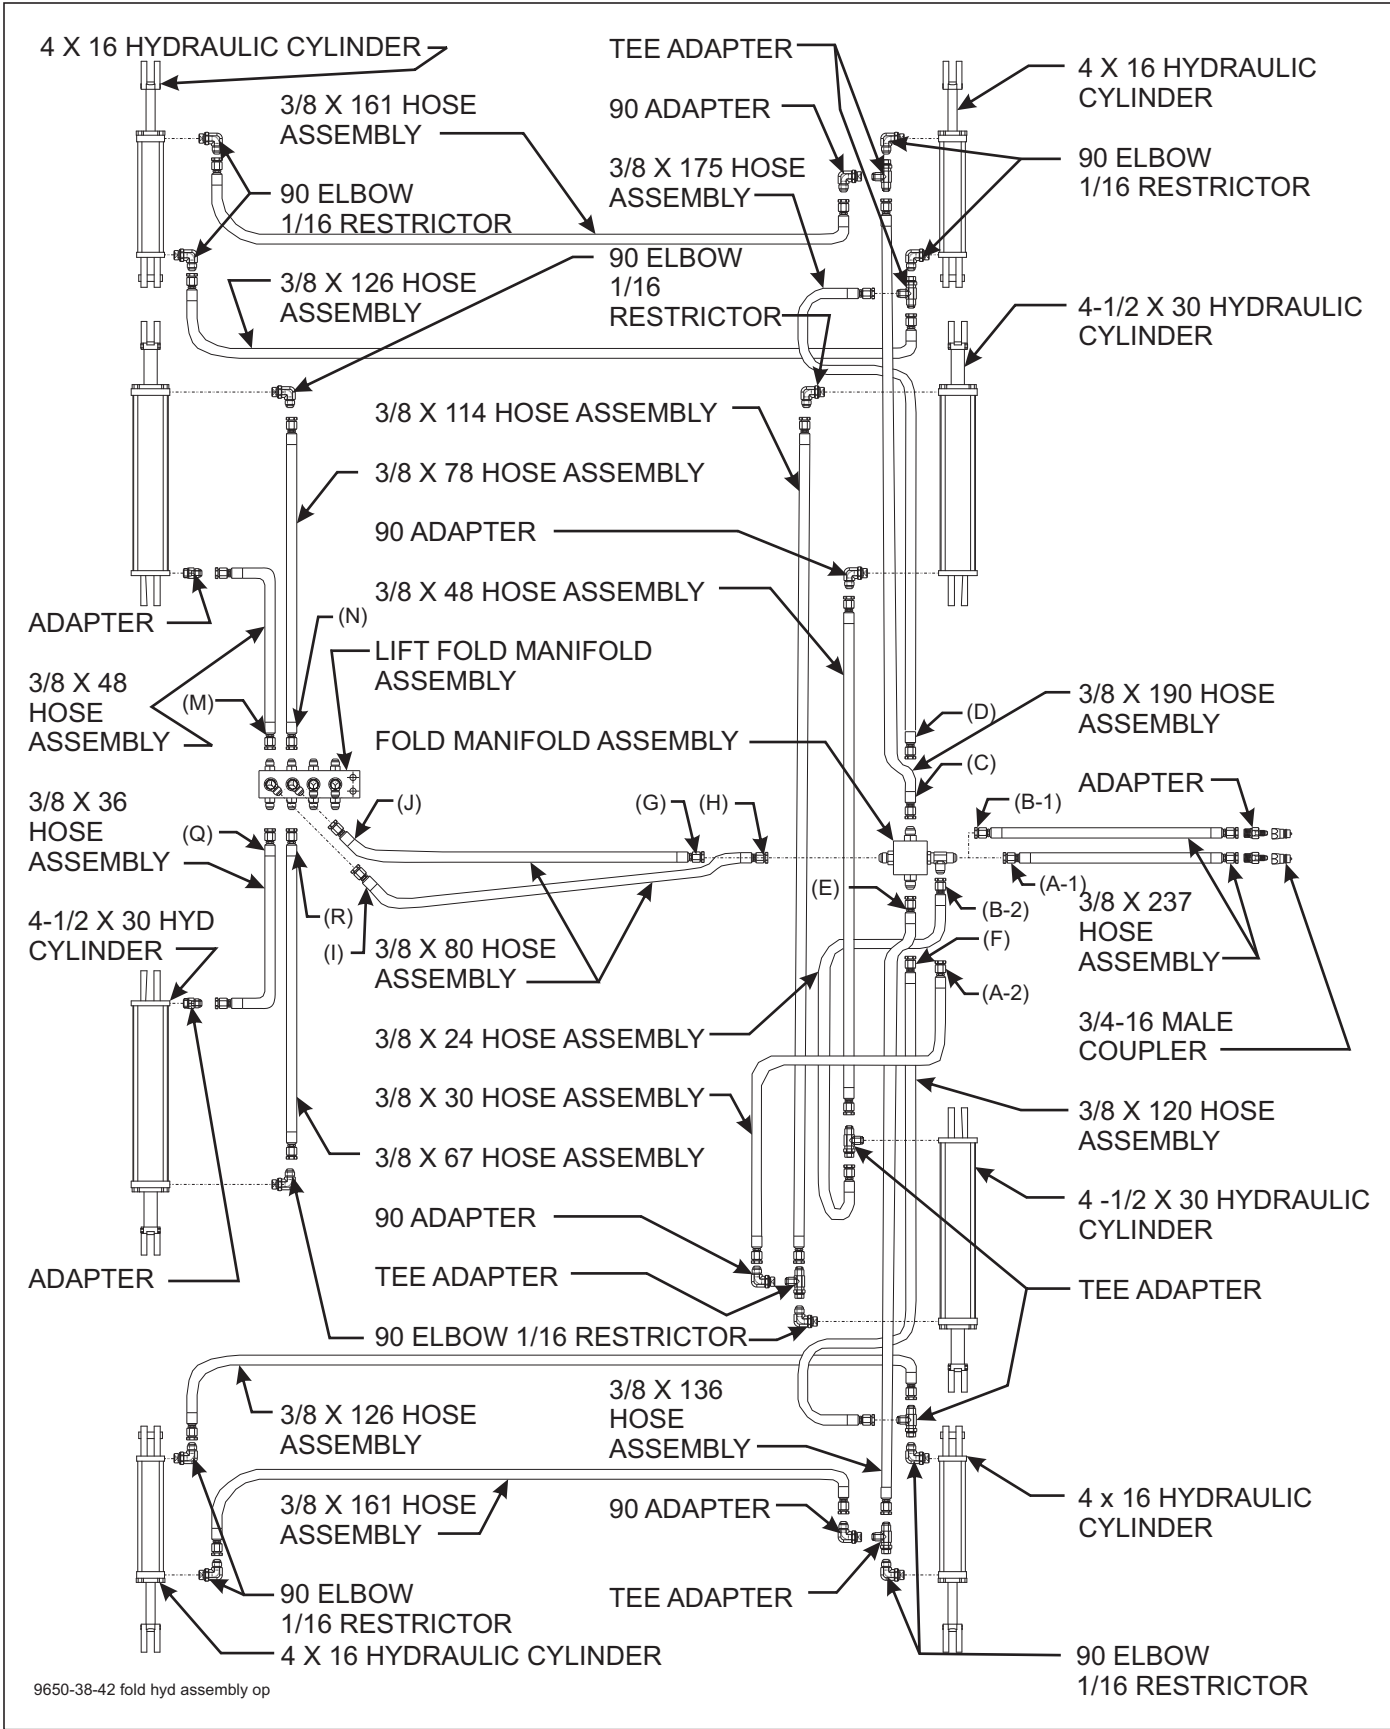

Figure 3-12: Hydraulic Fold Installation (9650-38 & 9650-42)
Restrictors are installed in the rod end of wing fold cylinders to prevent uncontrolled dropping of wings. Removal of these restrictors, or improper installation can result in serious damage to the implement. See Figures 3-12 and 3-14 for proper restrictor fitting identification and location.
14. Install fold system hoses per **Figure 3-12 (9650-38 and 9650-42) or Figure 3-14 (9650-46 and 9650-50.)** Wrap fold system hoses with yellow hose wrap.